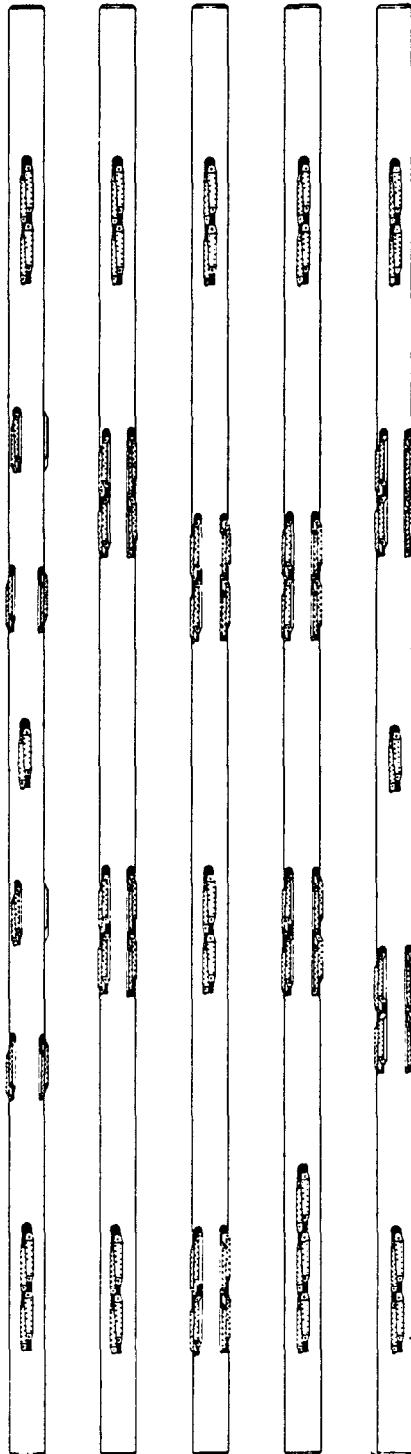

FIGURE 1
To go along with this research on how, when, where, and why to control rate of hole angle change, hundreds of companies have developed products to answer the industry's question of "What To Use". One of these companies is Oncor Drilling Tools and one of those products is the 30' Knockout Stabilizer. Fig. 1
- (1) The replaceable blades are all completely identical and interchangeable.
- (2) The blades themselves, are the locking mechanism that keeps them in place.
- (3) When the two blades are in a slot and converge along their incline plane, their combined width expands and fills the mating dove-tail slot, becoming hopelessly locked and trapped.
- (4) All frictional hole forces, either up or down, serve only to tighten the wedge shaped blade segments one upon the other.
- (5) No annular flow passages need to be machined in the body because a blade set forms a virtually solid wing, not unlike a welded blade stabilizer, that can be stuck out a relatively great distance from the body, thus leaving an enormous annular flow area from wing to wing radially around the body.
- (6) Other than a small bore, which every down hole drilling tool has, the body only contains simple milled dove-tailed slot, and the slots do not run full length off the body. The slots only have to be a few inches longer than the stacked blade.
- (7) The stabilizer has no threaded keepers, only a simple solid one piece back-up lock.
- (8) Blade sets can be stacked one upon the other to create whatever length blade wing required.
- (9) Number of blades and orientation can be at users discretion. Fig. 1
- (10) Only one connection in a 30' span of stabilization.